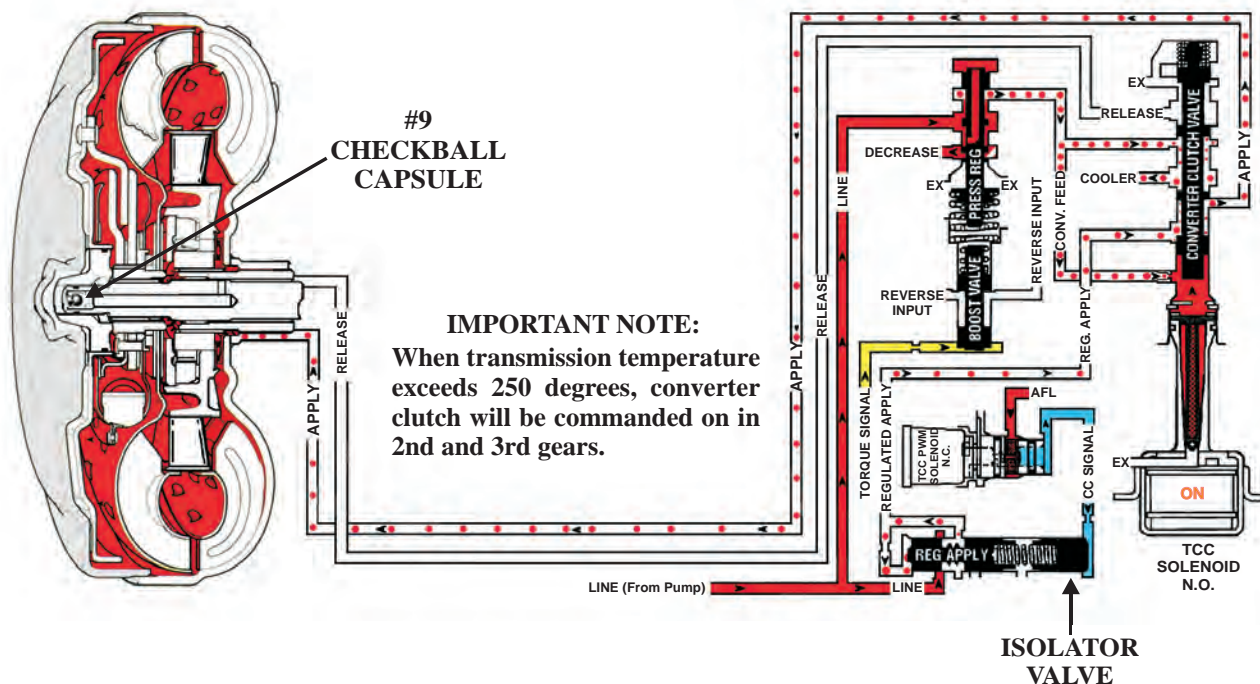

Figure 105
- The 4L60E PWM TCC/ECCC system in the hydraulic schematic in Figure 105 shown below shows the flow of the TCC apply and release circuits.